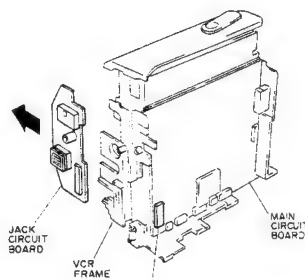

Fig. 2-29
- 1) Disconnect one (1) flat cable (CN910) on the main circuit board. (See Fig. 2-29)